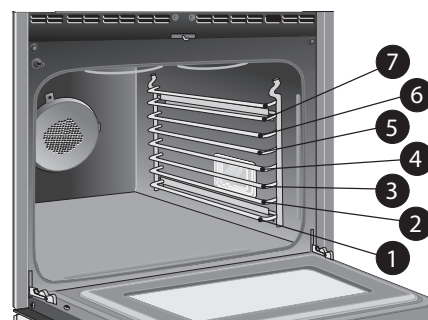
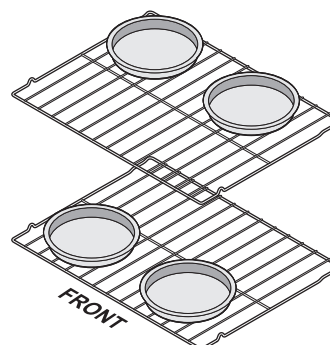

Figure 16: Rack positions
Figure 17: Pan spacing
- For best results when baking cakes using two oven racks, place bakeware on oven rack positions 6 and 1 (Figure 16) and place pans as shown in Figure 17.